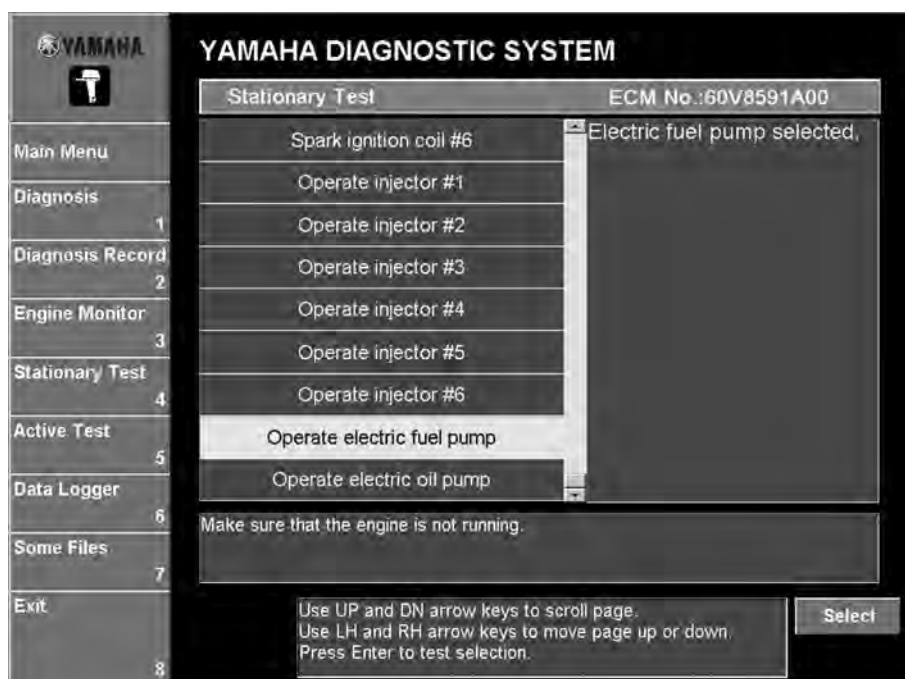

Fig. 76
1. Select the test to be performed, and then click the **Select** button or press the Enter key on your keyboard. (Fig. 76)